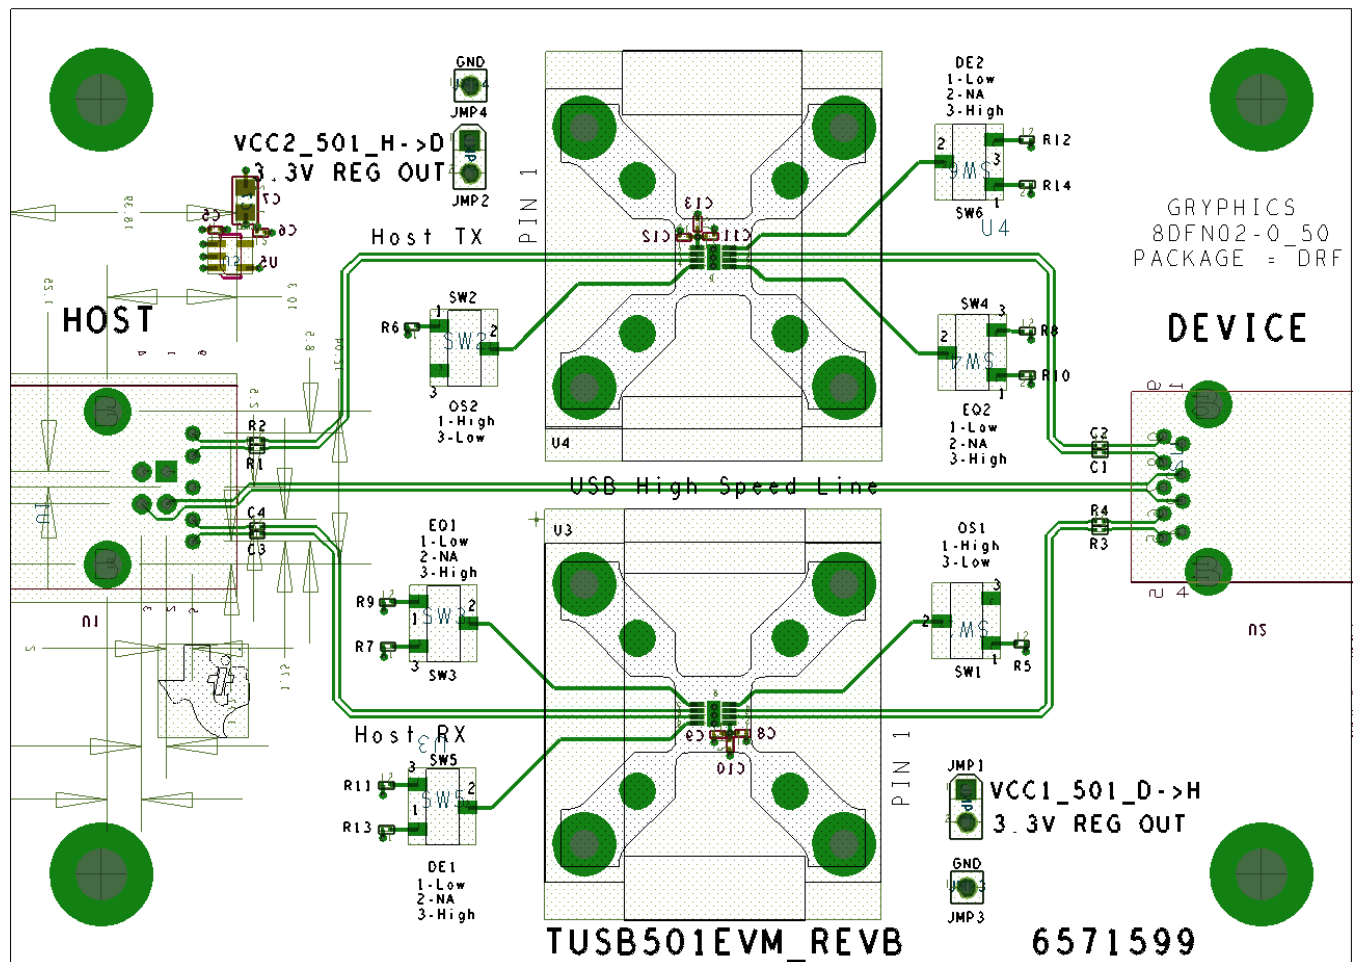

Figure 11. Example Layout
- It is recommended that small decoupling capacitors for the 1.8-V power rail be placed close to the TUSB501-Q1 as shown in Figure 11.